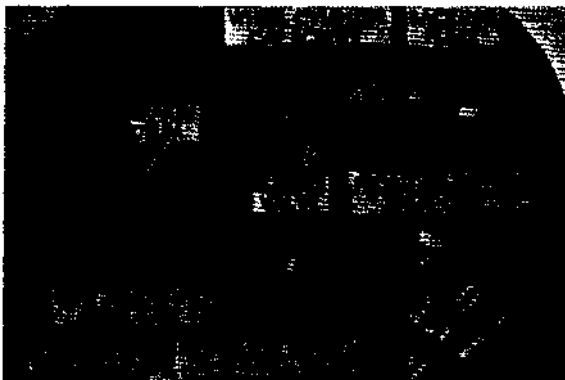

Figure 327. Turning adjusting shoe cam
- (1) Adjust wheel bearings (par. 251) at one wheel.
- (2) Turn rear adjusting shoe cam (fig. 327) on back side of backing plate counterclockwise until brake drags slightly when wheel is turned by hand. Then turn adjusting cam clockwise just enough to allow wheel to rotate freely.
- (3) Turn forward adjusting shoe cam (fig. 327) clockwise until brake drags slightly when wheel is turned by hand. Then turn adjusting cam counterclockwise just enough to allow wheel to rotate freely. Make adjustment of both cams as uniform as possible.
- (4) Lower wheel, and repeat above procedures at each remaining wheel.
- (4) Rotate brakedrum until inspection hole is 1-1/2 inches below upper end of rear brakeshoe. Insert feeler gage in inspection hole to determine clearance between brakeshoe and drum. Clearance should be 0.020 inch at this point.
- (5) If clearance between shoe and drum is incorrect, adjust clearance ((a) and (b) below).
- (a) Turn rear adjusting shoe cam (fig. 327) until clearance between shoe and drum, measured by feeler gage, is 0.020 inch. To reduce clearance, turn cam counterclockwise. To increase clearance, turn cam clockwise.
- (6) Adjust clearance between lower and upper ends of front brakeshoe and drum ((2), (3), (4), and (5) above).
a. Checking Wheel Bearing Adjustment. Raise wheel installed on hub to be checked until tire is clear of ground. Grasp top of tire and alternately push and pull on tire, observing the amount of wheel wobble or bearing play. When bearings are correctly adjusted, movement of the brakedrum (fig. 327) in relation to the top edge of the backing plate is just perceptible, with wheels turning freely. If movement appears to be excessive, proceed as in (b) below; otherwise, lower wheel and remove jack.